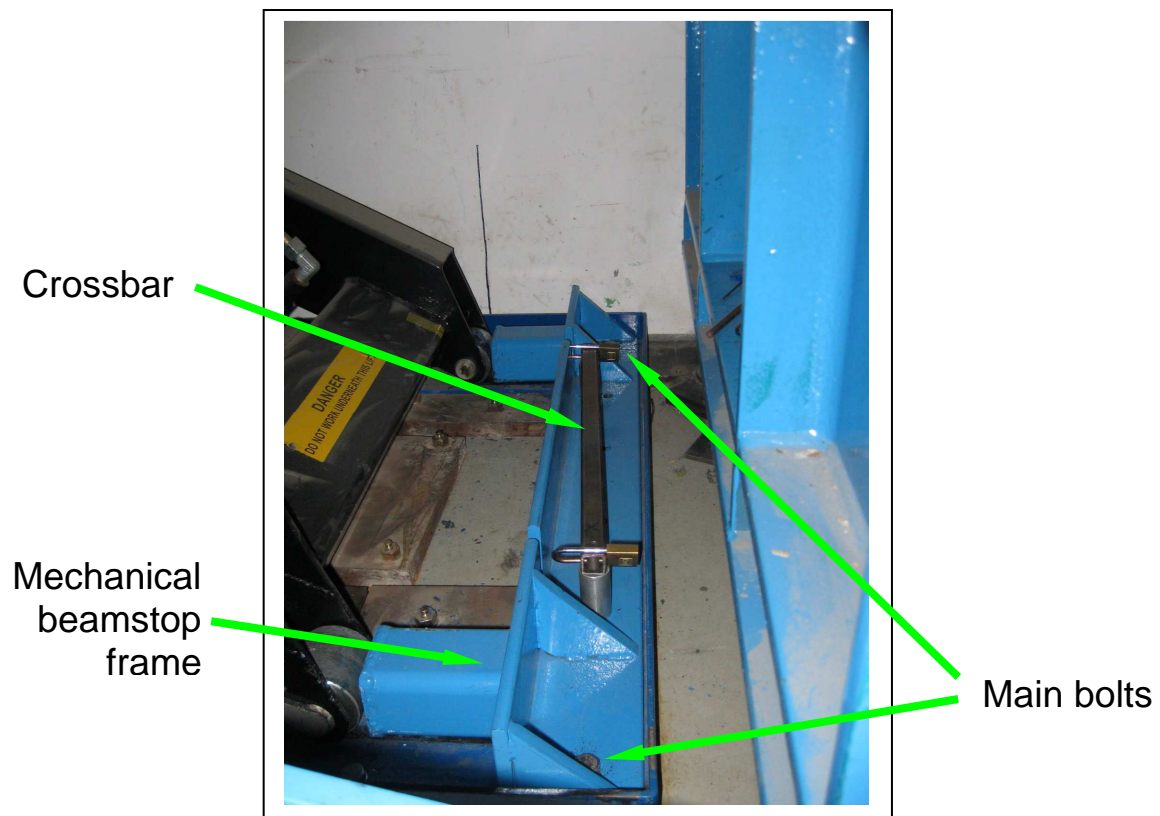
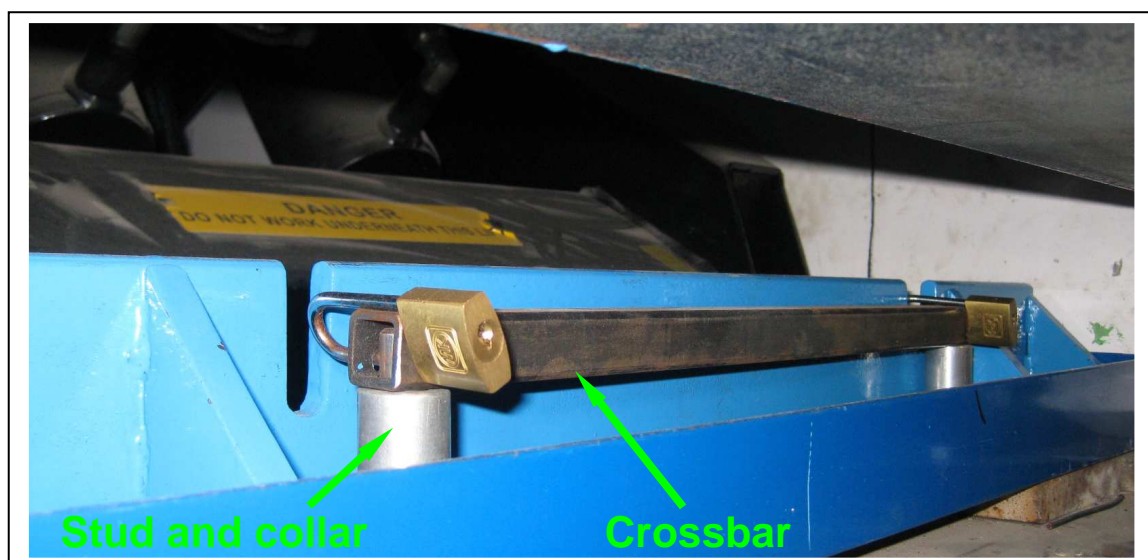

Figure 4: Mechanical beamstop frame and layout.
Figure 5: Mechanical beamstop crossbar.
The mechanical beamstop is a metal frame that prevents motion of the scissor table. It is secured to the base of the table assembly by the main pair of (17 mm) bolts (fig. 4). A second pair of studs carries a crossbar that is held in place by a pair of padlocks to prevent unauthorised removal of the restraint (fig. 5).
- Tighten the main bolts with the spanner, and then do up the studs leaving the top hole aligned perpendicular to the MICE beam (see fig. 5).